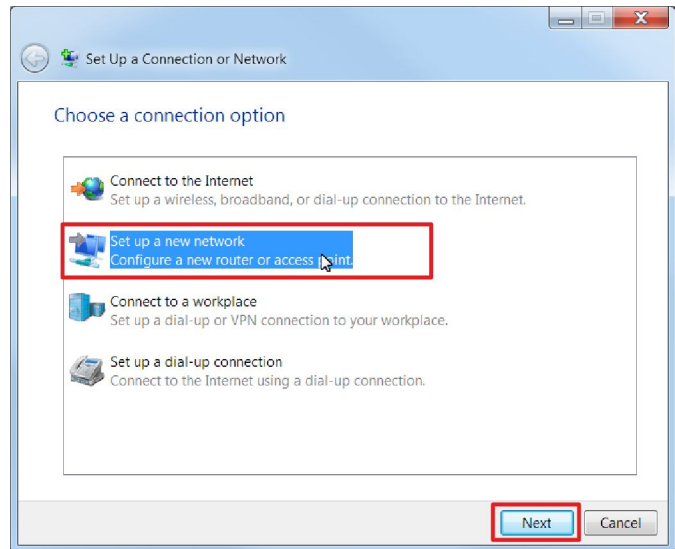

Fig. 43: Setting up a new network
3. ▶ Select 'Set up a new network' (Fig. 43), then click 'Next'.